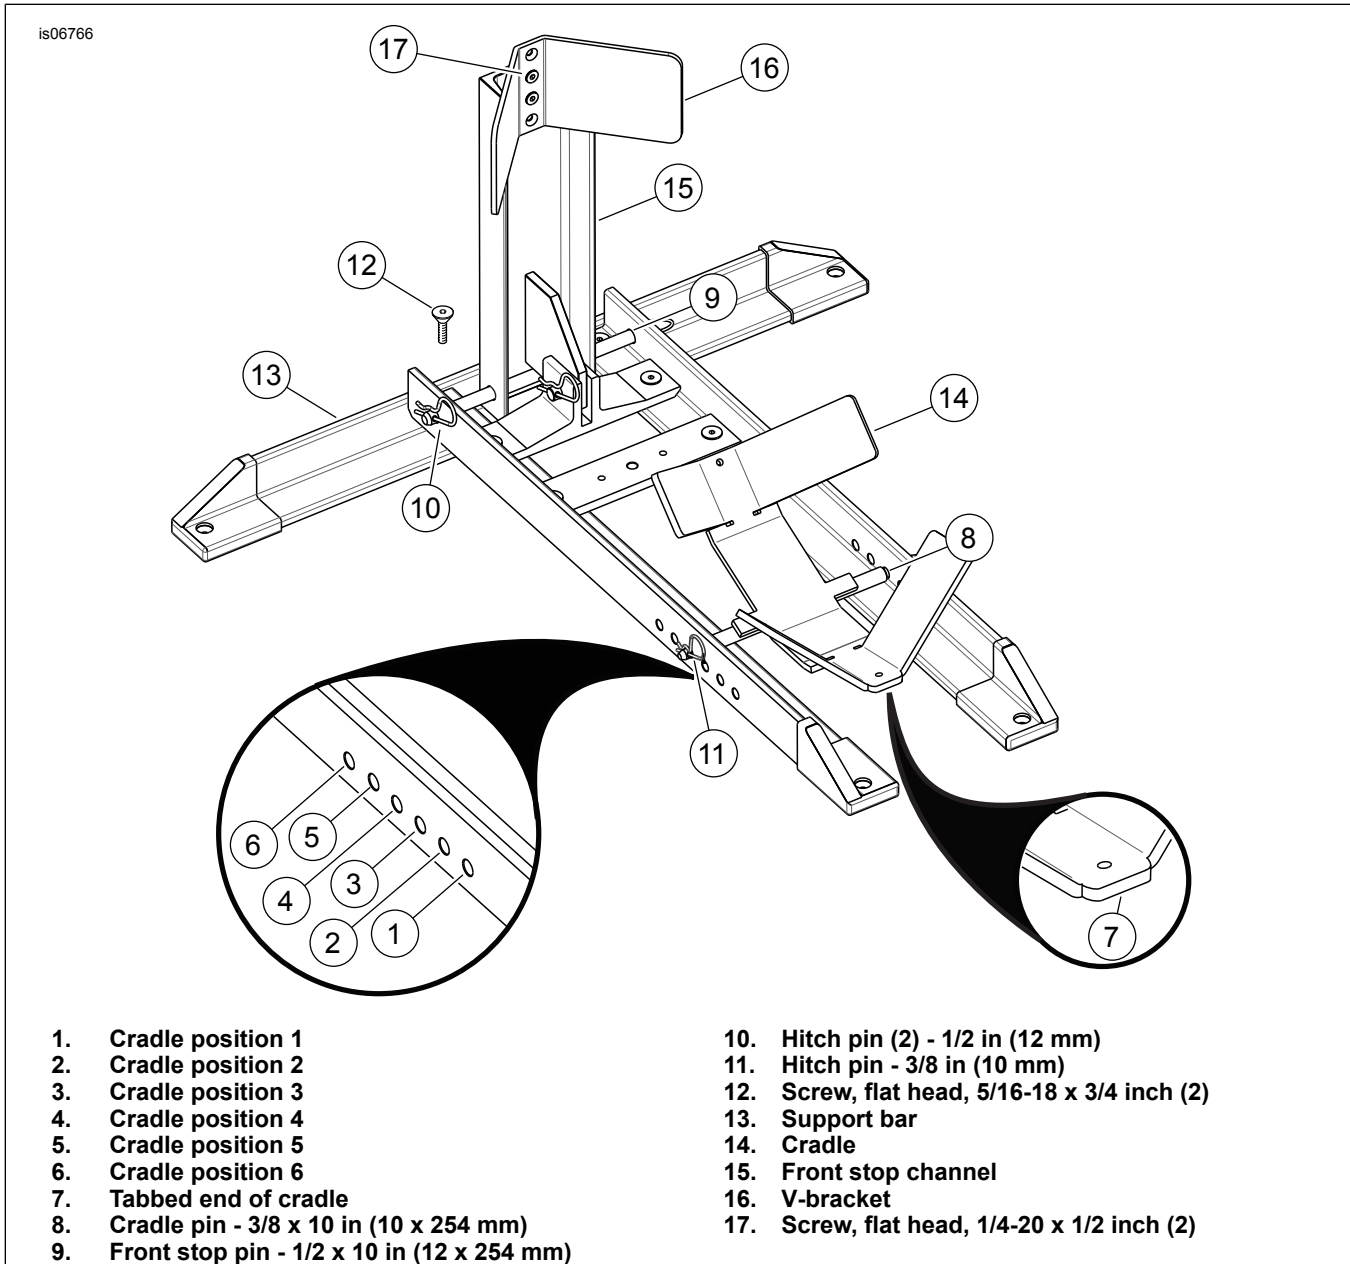

Figure 1. Harley-Davidson Wheel Chock
3. See Figure 1. Remove hitch pin (10) and front stop pin (9).
4. Install the wheel chock base and two screws (12) to support bar (13). Tighten screws to 21.7–24.4 N·m (16–18 ft-lbs).
5. Raise the front stop channel (15) along with the loose cradle (14) to the upright position.
6. While holding the front stop in the upright position, remove the cradle from the front stop channel V-bracket (16).
7. Secure the front stop channel in the upright position with the front stop pin (9). Secure the pin with the previously removed hitch pin (10).
8. Refer to Table 1 and Figure 1. Install the cradle (14) and cradle pivot pin (8) to the wheel chock holes indicated in the table. Orient the cradle (14) so that the tabbed end of the cradle (7) is positioned away from the front stop channel (15), as shown. Secure the cradle pivot pin with the hitch pin (11).
9. If necessary, adjust the height of the V-bracket (16) to the position closest to the wheel axle height as follows:
- a. Remove two screws (17).
- c. Install two screws (17) and tighten to 10.8–12.2 N·m (8–9 ft-lbs).
1. See Figure 1. Remove hitch pin (11) and cradle pivot pin (8).
2. Move cradle (14) to new position.
3. Install cradle pivot pin (8) and hitch pin (11).